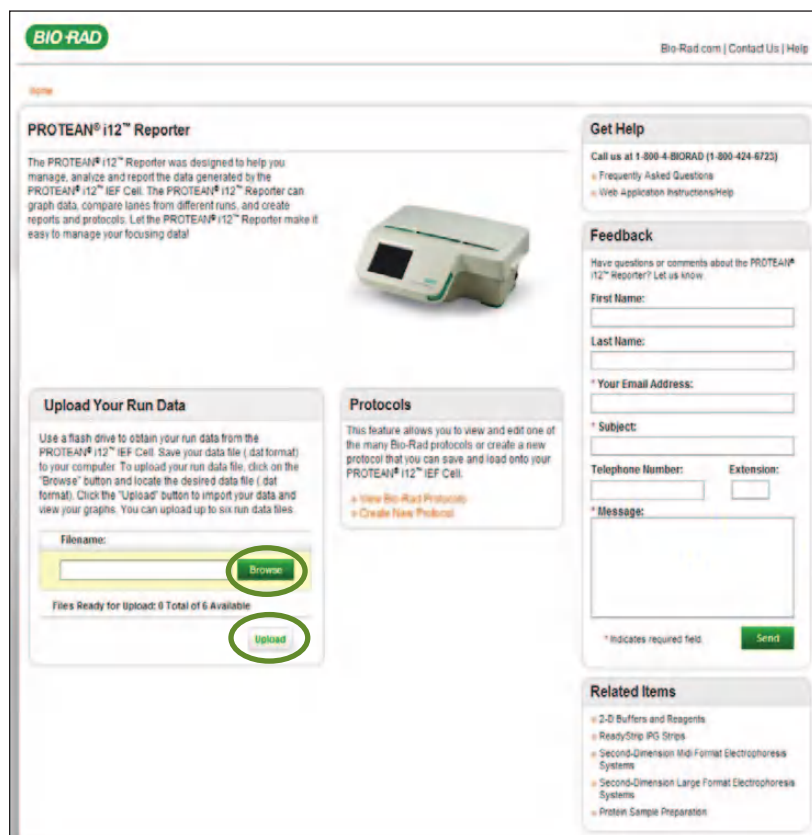

Fig. 6.1. PROTEAN i12 Reporter Main screen.
2. Transfer the USB flash drive to a computer (PC), then launch the browser and the PROTEAN i12 Reporter application (www.i12Reporter.com).
3. In the PROTEAN i12 Reporter Main page (Figure 6.1), under **Upload Your Run Data**, click **Browse** and navigate to the run data files (.dat). You can upload up to six files at a time.